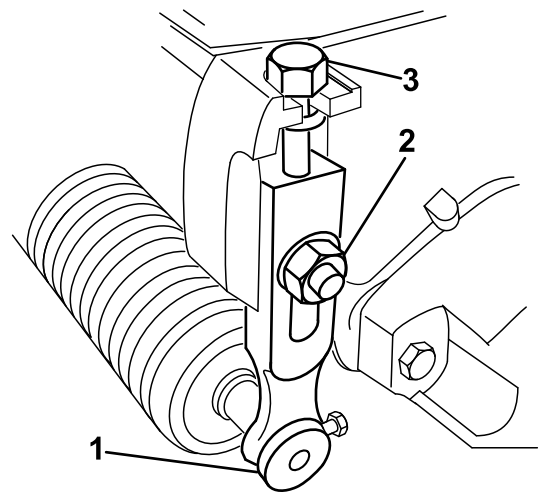

Figure 14
1. Loosen the locknuts securing the height-of-cut arms to the cutting-unit side plates (Figure 14).